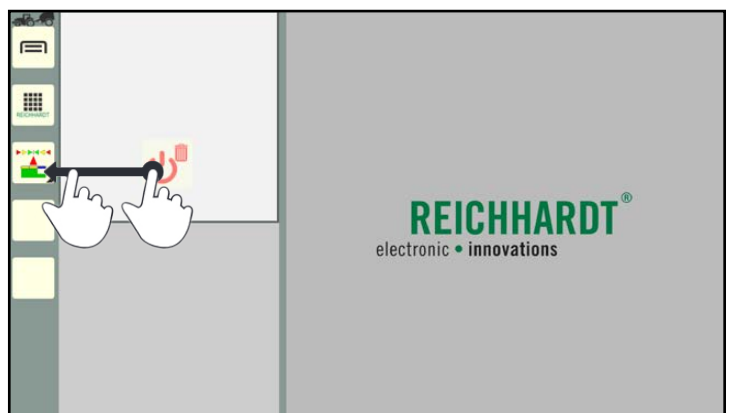

Fig. 68: Dragging the Delete/Exit button on to the shortcut
3. Drag the Delete/Exit button on to the shortcut for which you wish to remove the assignment (see Fig. 68).